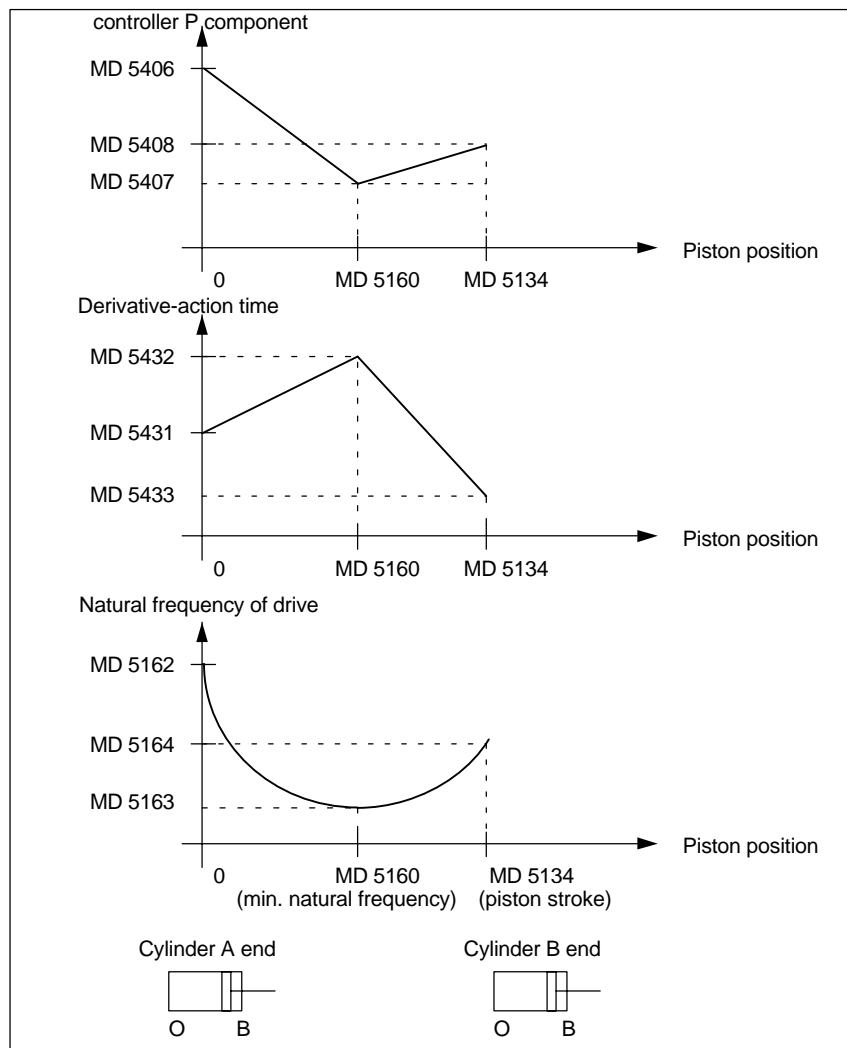

Fig. 4-11 Deactivate adaptation
- Adaptation ON (see Fig. 4-11)